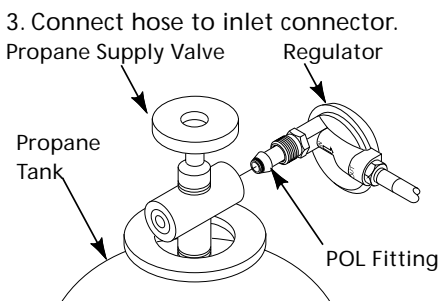

Figure 4 - Regulator Position
**IMPORTANT:** Position regulator so that hose leaving the regulator is in a horizontal position (See Figure 4). This places the regulator vent in the proper position to protect it from the weather.